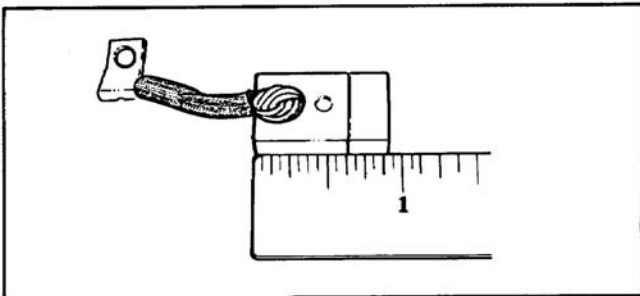

Figure 8 - Measure Brush Length
2. Check brush length. Figure 8. If any brush is worn to its minimum length when measured at its shortest point, new brushes are needed. Replace brushes in sets of four only.